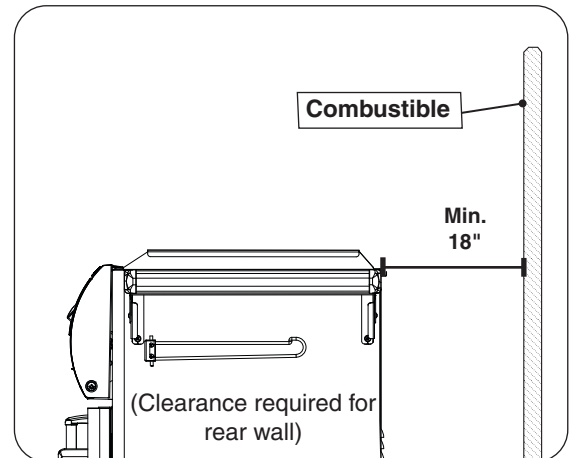

Fig. 9-3 Clearance 'C' Diagram
- The unit must have a minimum clearance of 18" from the combustible rear wall (see Fig. 9-3).